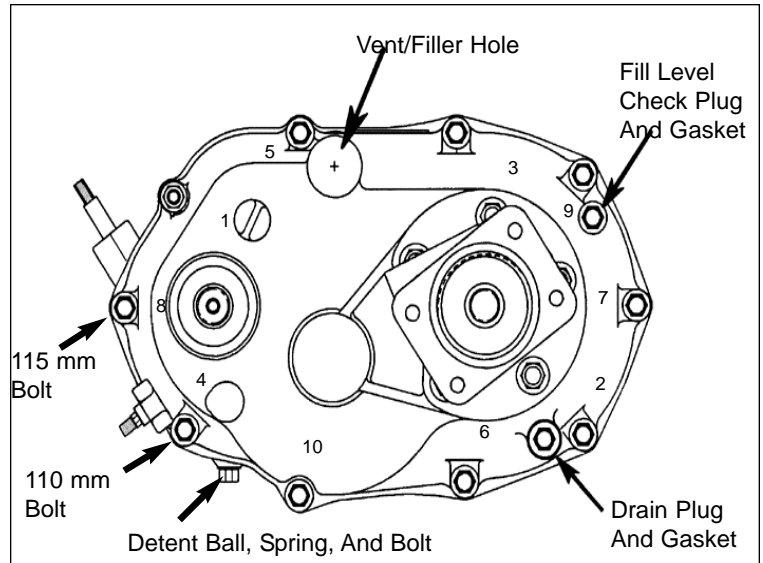

Figure 48 - Bolt Diagram
Position the upper case half with axle bolted to it above the lower gear assembly. Lower the upper half into position on the lower half and bolt together with eight (8) 100 mm bolts, one (1) 110 mm bolt. See Figure 48.
- Install shift cable bracket on to 110mm bolt. Install throttle cable bracket on to 115mm bolt. Torque all 10 gear case bolts in order shown above. See Figure 48.
Remove fill level/check plug and yellow vent/filler plug. Add oil only until oil level reaches fill level. Check plug hole. See Figure 48.